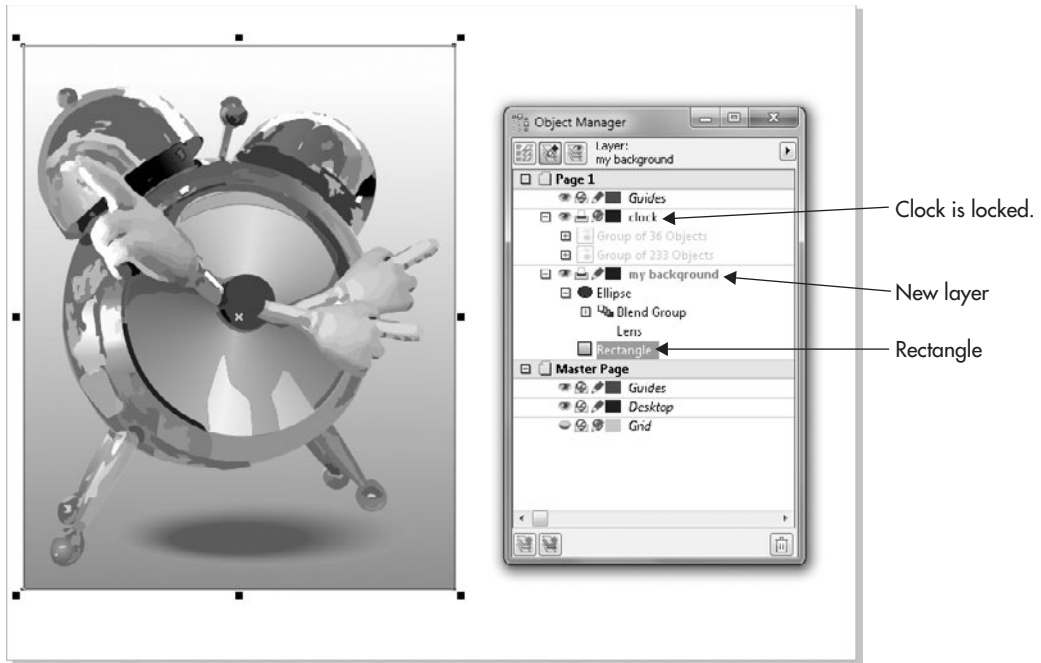

FIGURE 4-9 Working with layers takes full advantage of CorelDRAW's search capabilities and makes it easy to modify only certain elements in a complex drawing.
10. Click the new layer highlighted on the Object Manager list, choose the Rectangle tool from the toolbox, create a rectangle as a background for the clock, and then apply a fill. Figure 4-9 shows a linear gradient fill (covered in Chapter 15) and a blend with transparency added to the new background layer—see Chapter 21 for the scoop on blends and contours.